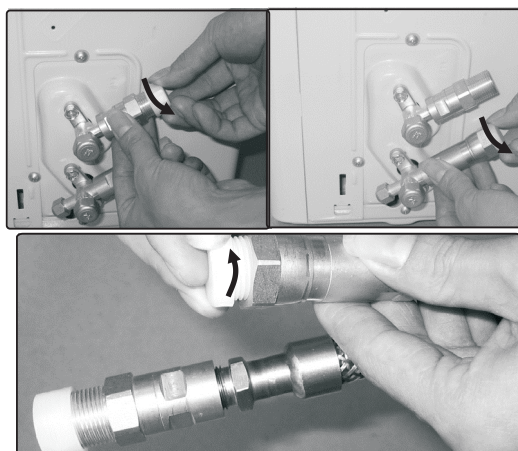

Fig.6.2
2. Do not remove the plastic seals from the outdoor unit and the appropriate refrigerant pipes until immediately before you connect them, Fig.6.2